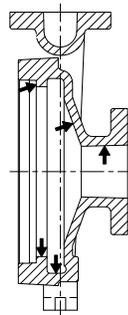

Figure 27
- You should inspect the inside of the body and the gasket body surface, if you have slots than 1/8" it should be repaired or replaced (see Figure 27).